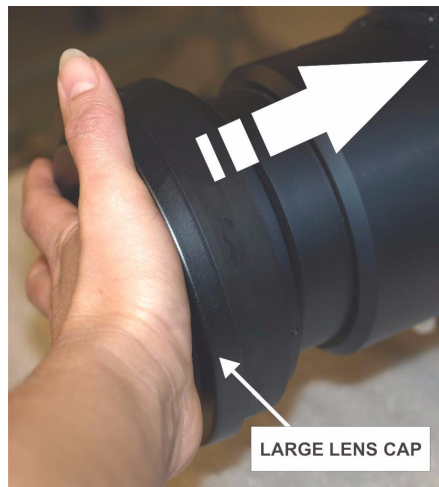

FIGURE 2-3 LENS PLACEMENT
4. Align the lens interface plate with the lens mount. Align the lens electrical connector with the mating connector on the lens mount. Fully insert the assembly straight into the lens mount opening without turning. Press using your hand, see Figure 2-3 Lens Placement. NOTE: **When installing the lens, ensure that the lens IS NOT inserted at an angle. as this can cause damage.**